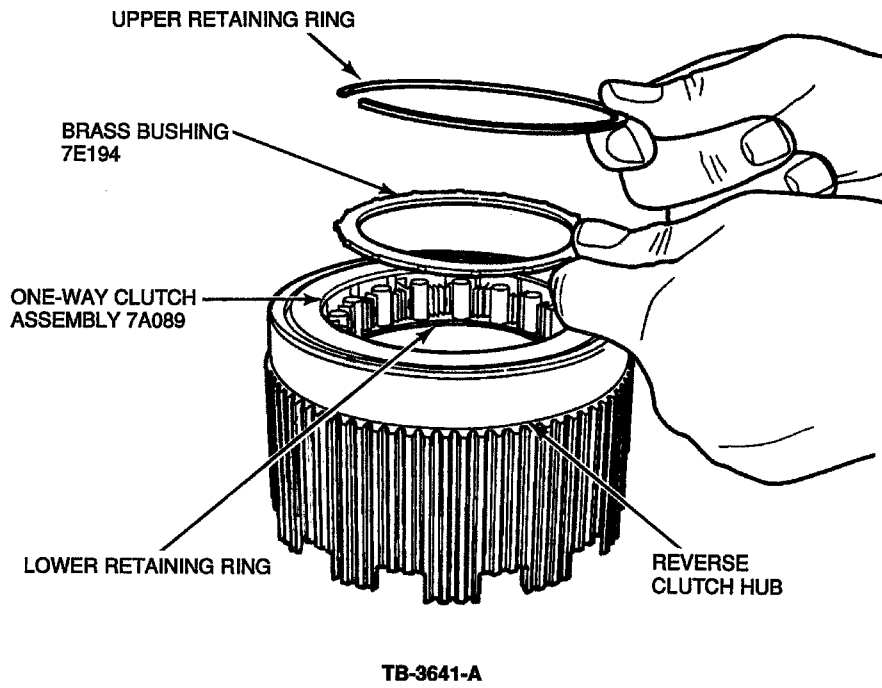

Figure 1 - Article 94-8-20
1. Remove the upper retaining ring, brass bushing, one-way clutch assembly and lower retaining ring, Figure 1.